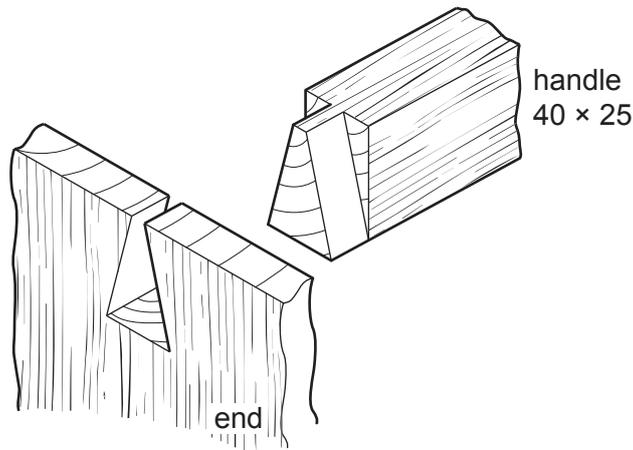

Fig. 11.5
Fig. 11.5 shows a method of joining the handle to the ends of the toolbox.
- (i) Name the joint shown in Fig. 11.5.
- (ii) Explain why the method shown in Fig. 11.5 has considerable strength when joining the handle to the ends of the toolbox.